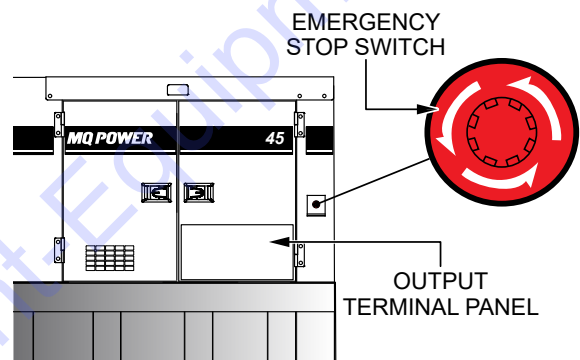

Figure 57. Emergency Stop Switch
1. To stop the engine in the event of an emergency, push the **Emergency Stop switch** (Figure 57), located on the side of the generator next to the output terminal panel. Or, if equipped, press the optional Emergency Stop switch located on the control panel.